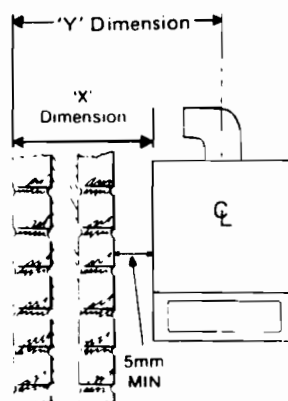

FIG. 17A
(2) FOR SIDE FLUE OUTLET (Fig.17A)